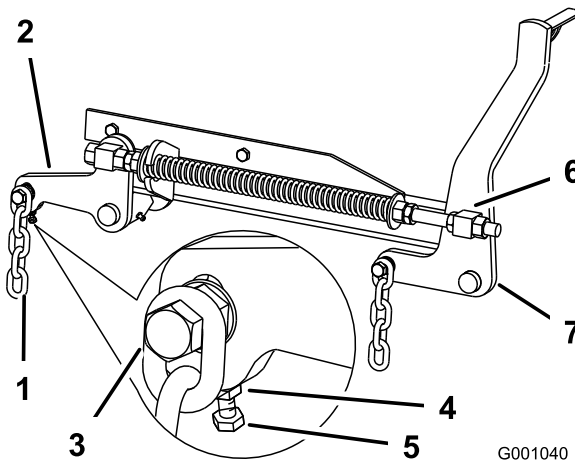

Figure 77
7. If the measurements at positions **B** or **C** are not correct, loosen the bolt attaching the rear chain to the rear support arm (Figure 77).
8. Loosen the jam nut under the rear support arm and adjust the adjustment bolt to get a measurement of 3-1/8 to 3-1/4 inches (80 to 83 mm) (Figure 77).
7. Loosen the front swivel jam nuts, at the front of the right and left swivels, approximately a 1/2 inch (13 mm) (Figure 77).
8. Adjust the lift nuts on both the left and the right side of the machine to achieve 1/4 to 3/8 inch (6 to 10 mm) lower in front at **A** than in the rear at **B** (Figure 77).